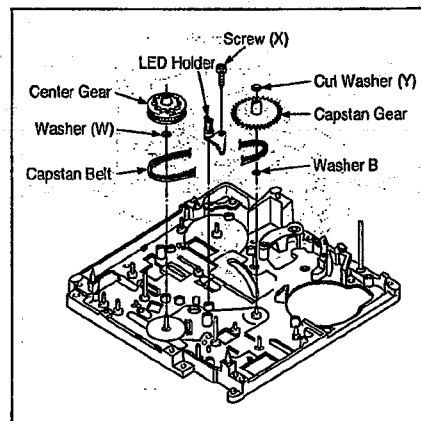
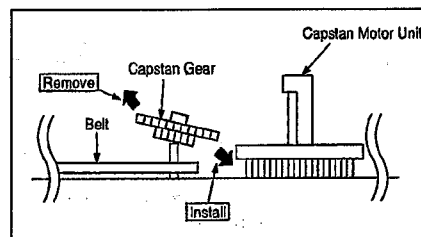
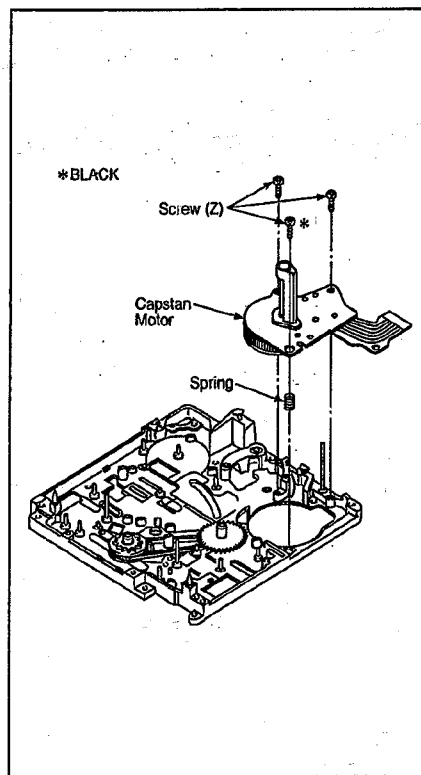

Fig. M34
Fig. M35
Fig. M36
19. Capstan Belt Fig. M34 Remove the Center Gear and Washer (W).
- Unscrew screw (X) and remove LED Holder.
- Remove Cut Washer (Y).
- Fig. M35 (Loosen a black screw on the Cap. Motor as shown in Fig. M36.) Slightly lift up in the direction and slowly remove the Capstan Gear. Do not bend the Capstan Shaft.
20. Capstan Motor Unit (Note of installation) Fig. M34 Unscrew 3 screws (Z) and remove Capstan Motor.